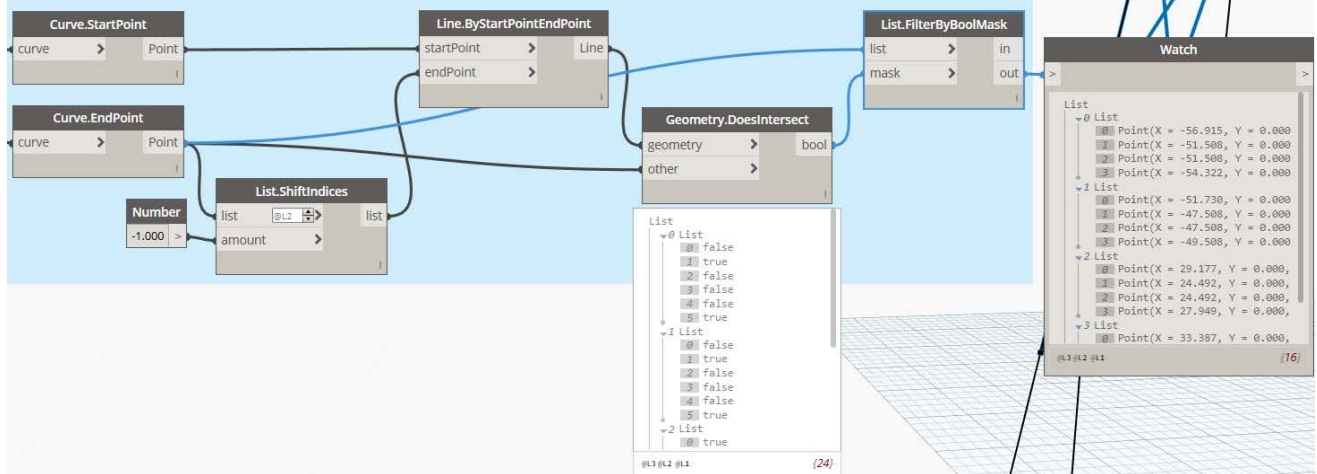

Figure 77
41. For the **list** port, feed in the output of the ***Curve.EndPoint*** node (see Figure 77).